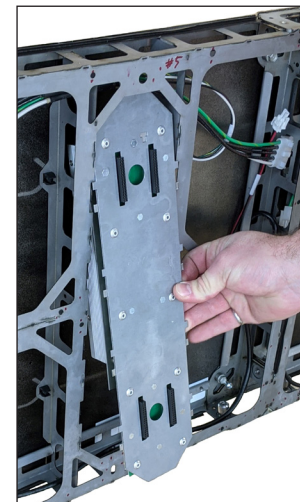

Figure 5: Remove Component Front-Access Assembly
2. Press and hold the push button at the top of the component front-access assembly and slide the assembly up. Rotate the bottom of the assembly out until the top tab is free. Refer to **Figure 5**.